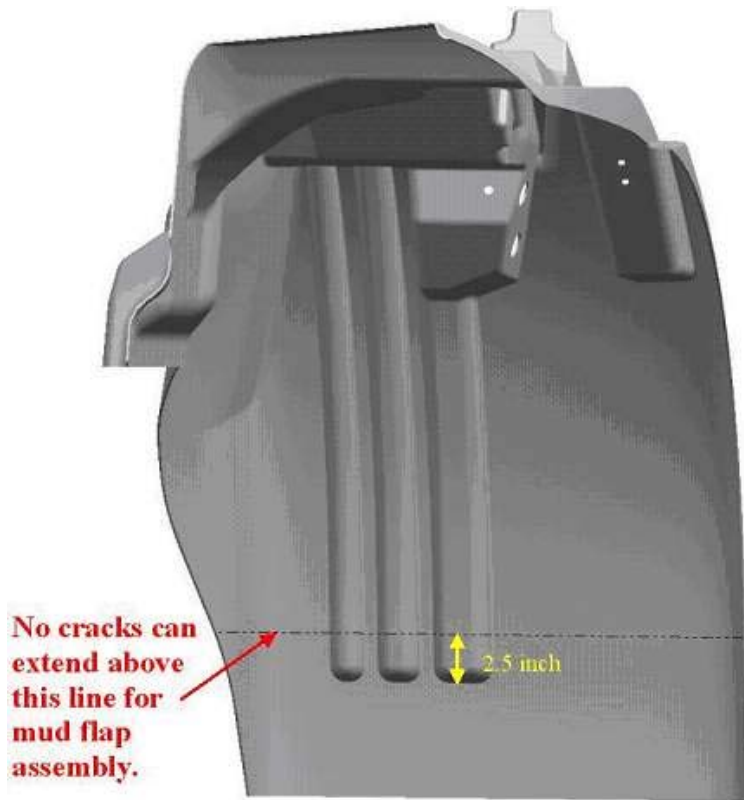

Figure 1 Fender Extension
8600 HPV Models, built before November 22, 2004, may develop cracks in the fender extension along the rear bottom edge under normal usage (Figure 1).
- A. If there are no cracks or if cracks only exist along the rear bottom edge of the fender extension and do not extend beyond the 2 1/2 inch guideline shown in Figure 1, refer to Parts Information Table 1 for the appropriate kit and TSI-05-09-01R for the Service Procedure.
- B. If cracks exist along the rear bottom edge of the fender extension and extend beyond the 2 1/2 inch guideline shown in Figure 1 and / or other cracks are present, install a new fender extension(s) (Table 2). Refer to Service Section S09008 for the Remove and Install Procedure and Parts Information Table 1 for the appropriate fuel tank or fuel tank, air tank kit to be installed.